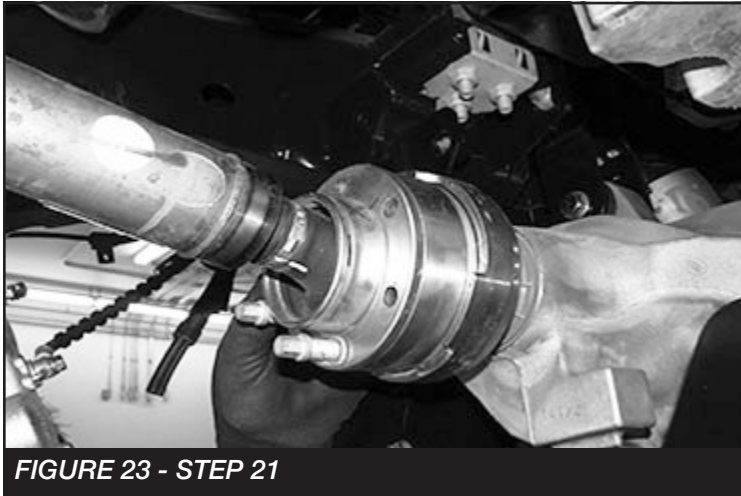

FIGURE 23 - STEP 21
21. Reinstall the front drive shaft with the factory hardware and torque to 35 ft-lbs. **SEE FIGURE 23**